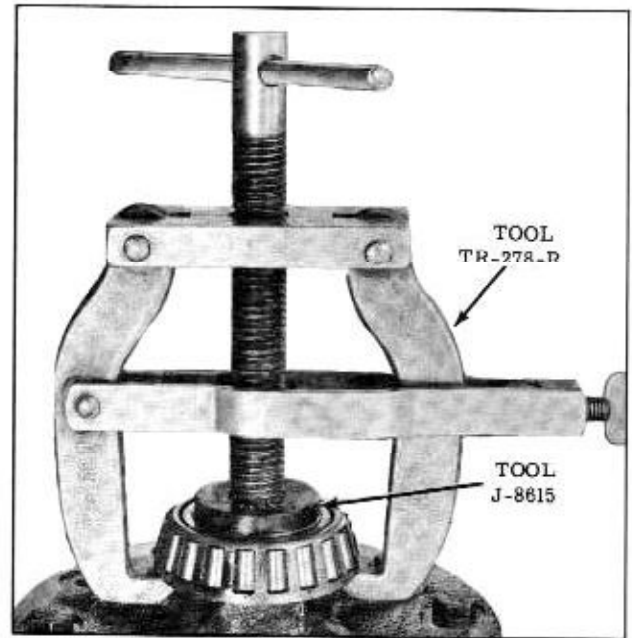

Figure 6-10 Removing Side Bearings
1. Insert Adapter J-8615 and pull bearing using Puller TR-278. (Fig. 6-10)